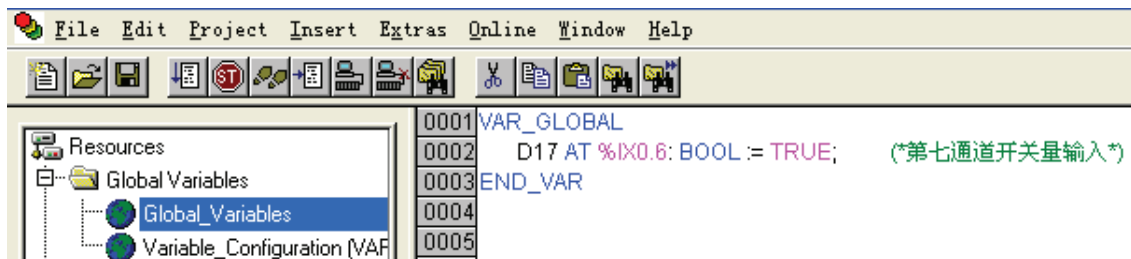

Figure 4-4-2 Code of variable declaration
The standard data types and the range of the variables supported by PowerPro is shown in figure 4-4-2.
- Symbol list: the symbol list is available only when selecting “VAR_GLOBAL” in “Type” field. The default setting is “Global_Variables”. After a declaration of a global variable, you will find a “Global_Variables” in the “Resources” register card in the “Global Variables” folder and all the declared global variables will be displayed here by double clicking the “Global_Variables”, shown in figure 4-4-2.